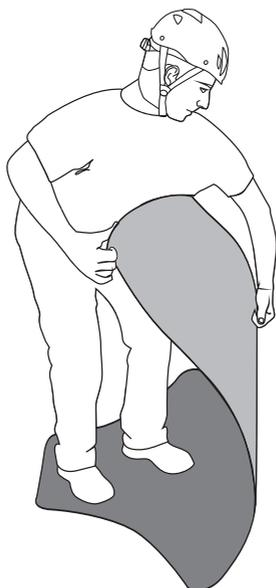

Fig.8
- Remove **“HALF ROLLY”** rescue sheet from the transport bag (O) and remove the ratchet sling (N),
- Distend the support surface (A) and flatten it, rolling the ends over in the opposite direction and folding the central section (fig. 8)